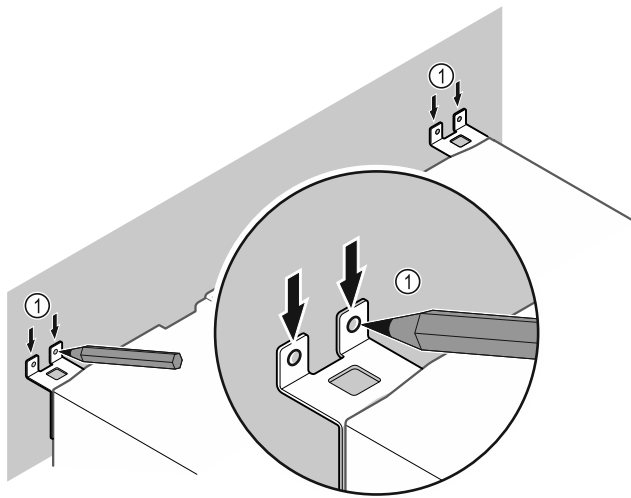

Fig. 11
- ▶ Make markings on the wall *Fig. 11 (1)*.